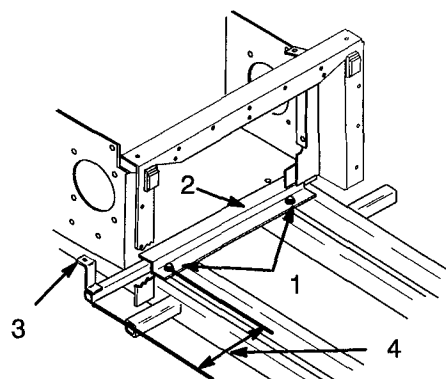

Figure 6
10. Remove floor pan and loosen two bolts on machine cross channel. Slide spring support inside and against front wall of cross channel (Fig. 6).
11. Adjust spring support so it extends out from mounting bolt (Fig. 6) Tighten two bolts on machine cross channel to wedge spring support.